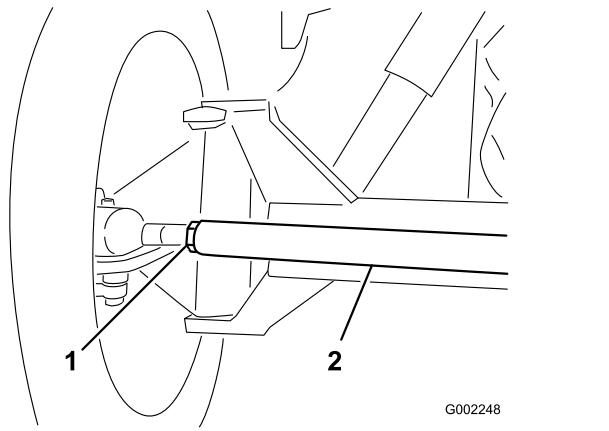

Figure 91
3. If the measurement does not fall within the specified range, loosen the jam nuts at both ends of the tie rod (Figure 91).